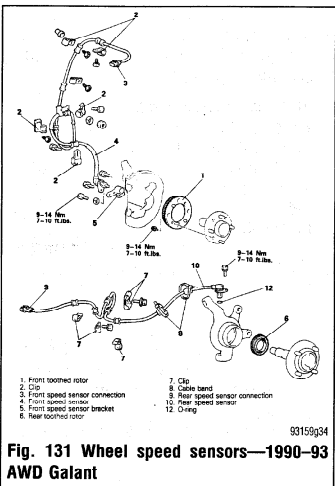

Fig. 131 Wheel speed sensors—1990–93 AWD Galant
▶ See Figures 131 and 132
♦ See Figure 131 and 132